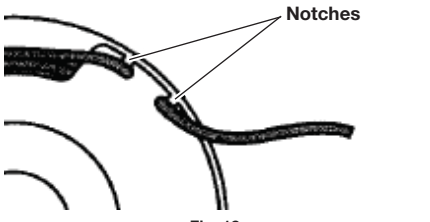

Fig. 18
8. Lock the ends of the lines in the two notches on the spool (Fig. 18).